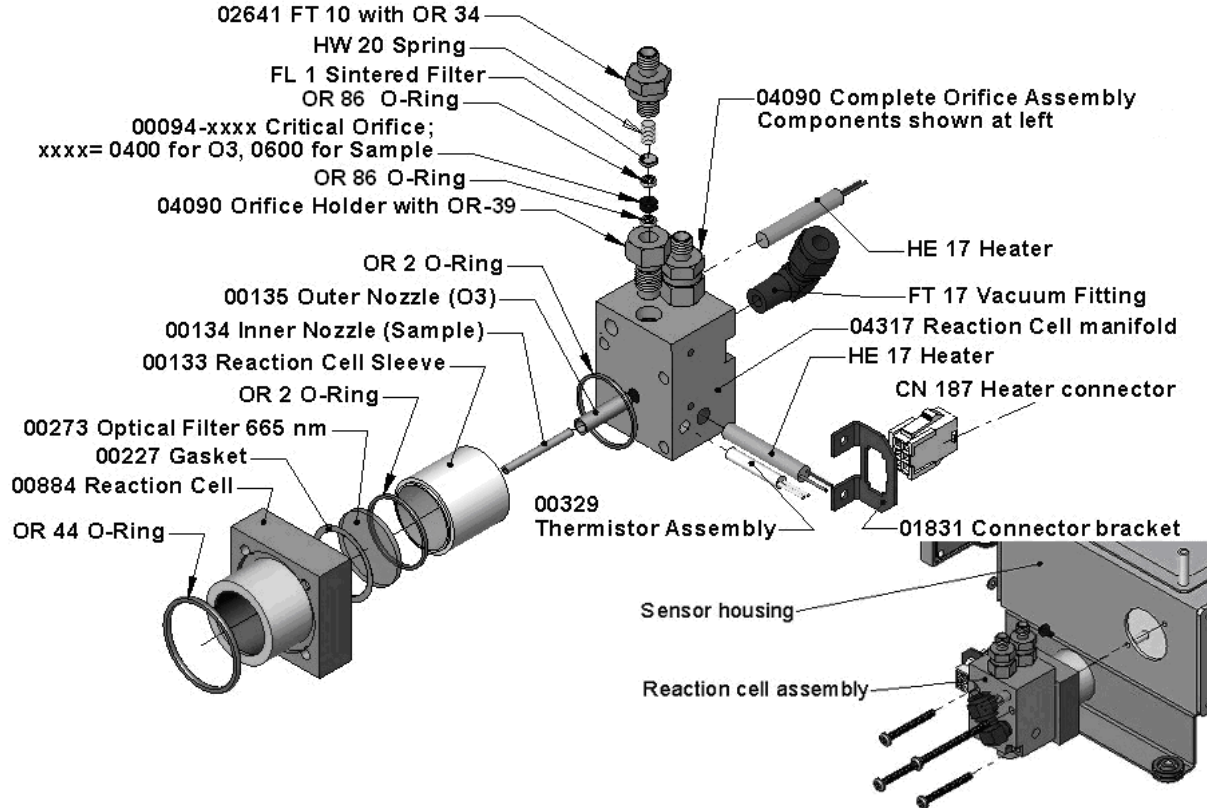
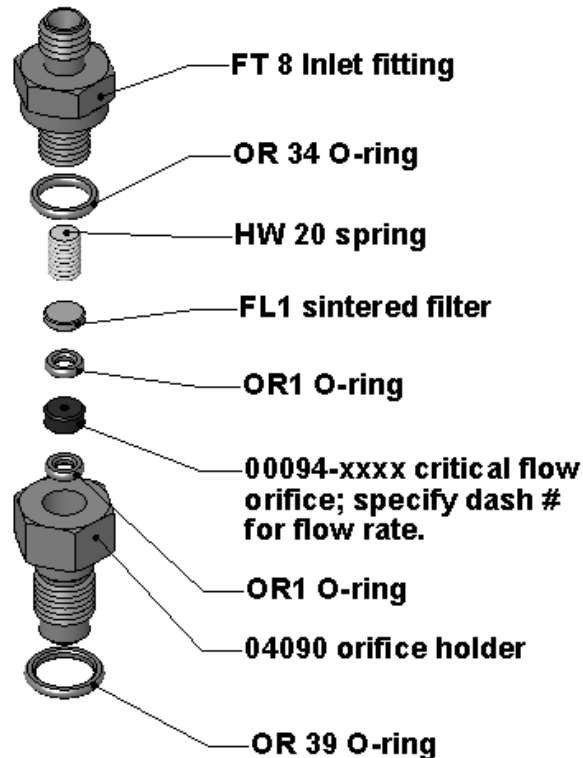

Figure 9-6: Reaction Cell Assembly
Figure 9-7: Critical Flow Orifice Assembly
- Turn off the instrument power and vacuum pump. Refer to the Figure 9-6 for the following procedure.
- Remove four screws holding the reaction cell to the PMT housing and lift the cell and manifold out as shown in the inset of Figure 9-6.
There are several critical flow orifices installed in the TML41. Figure 9-6 shows one of the two most important orifice assemblies, located on the reaction cell. Refer to Section 10.2.8 for a detailed
- Turn off power to the instrument and vacuum pump. Remove the analyzer cover and locate the reaction cell (Figure 9-6, Figure 11-7 and Figure 3-2).
- For orifices on the reaction cell (Figure 9-6): Unscrew the orifice holder with a 9/16" wrench. This part holds all components of the critical flow assembly as shown in Figure 9-7. Appendix B contains a list of spare part numbers.
- For orifices in the vacuum manifold: the assembly is similar to the one shown in Figure 9-7, but without the orifice holder, part number 04090, and bottom O-ring OR34 and with an NPT fitting in place of the FT 10 fitting. After taking off the connecting tube, unscrew the NPT fitting.
- Re-assemble the parts as shown in Figure 9-7 and re-connect them to the reaction cell manifold or the vacuum manifold.